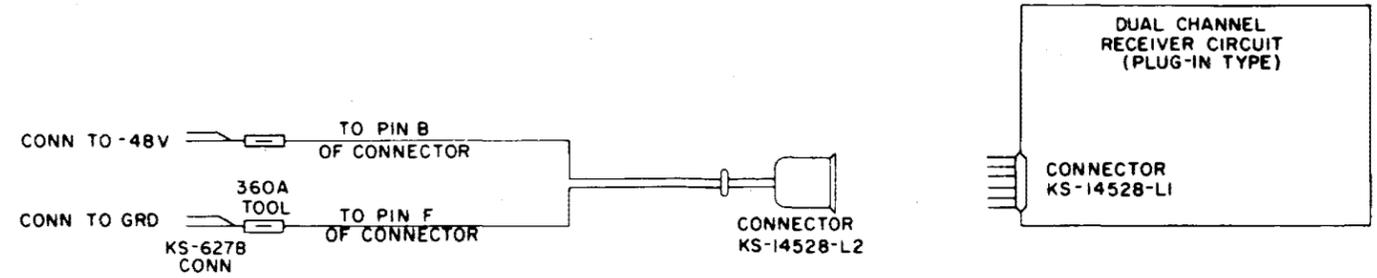

FIG. 1
2.10 KS-14528-L2 test connector, two 360A tools, and two KS-6278 connecting clips, assembled locally as shown in Fig. 1 (required only when receiver under test is plug-in type).
Apply battery, ground to receiver through KS-14528-L2 test connector wired as in Fig. 1. | |